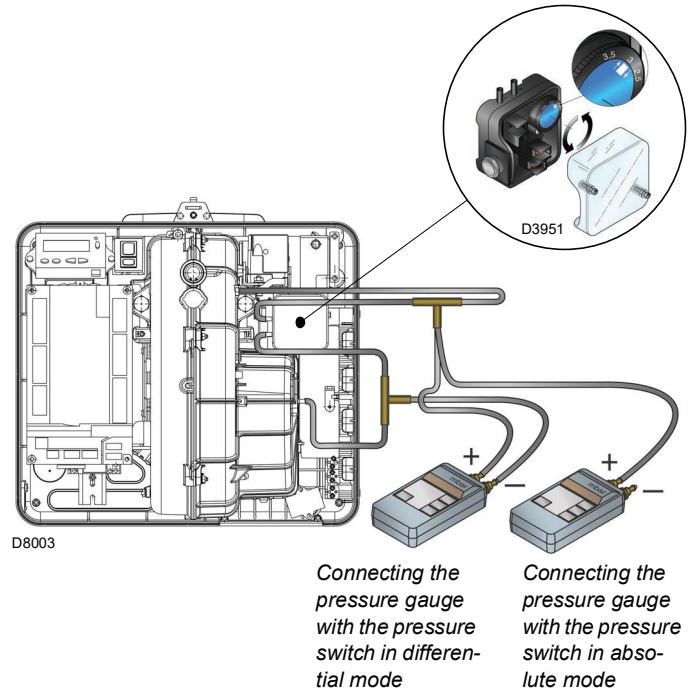

Fig. 29
- Adjust the air pressure switch (Fig. 29 at page 32) to the start of the scale.
Adjust the air pressure switch (Fig. 29) after having performed all other burner adjustments with the air pressure switch set to the start of the scale.
The connection of the pressure gauge is shown in Fig. 29. The standard configuration is that with the air pressure switch connected in absolute mode. Note the presence of a "T" connection, not supplied.
In this case also, the pressure gauge must be connected in differential mode, as shown in Fig. 29.